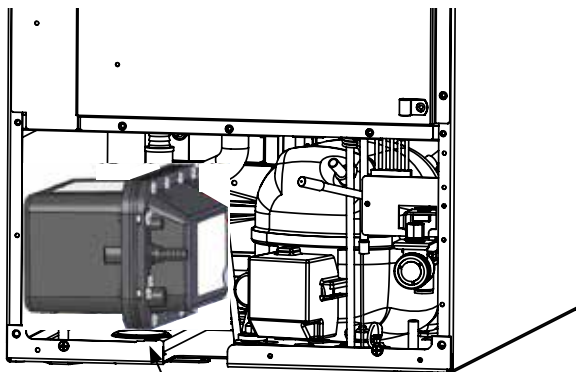

Figure 49
6. Rotate the drain pump and remove from the ice machine, (See Figure 49). It may be necessary to disconnect the ground wire connection in the back flange of the cabinet. (See Figure 45).